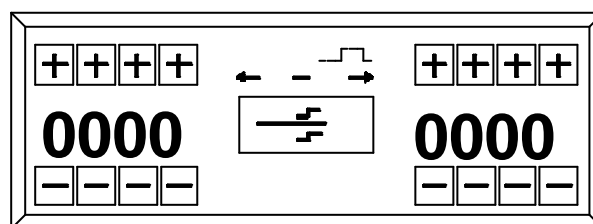

Figure 28. Glue-Pattern Edit Screen
4. At the main screen, touch one of the four-digit numbers on the top half of the screen. The glue-pattern edit screen displays (Figure 28).
8. At the main screen, touch one of the four-digit numbers on the bottom half of the screen. The glue-pattern edit screen displays (Figure 28).